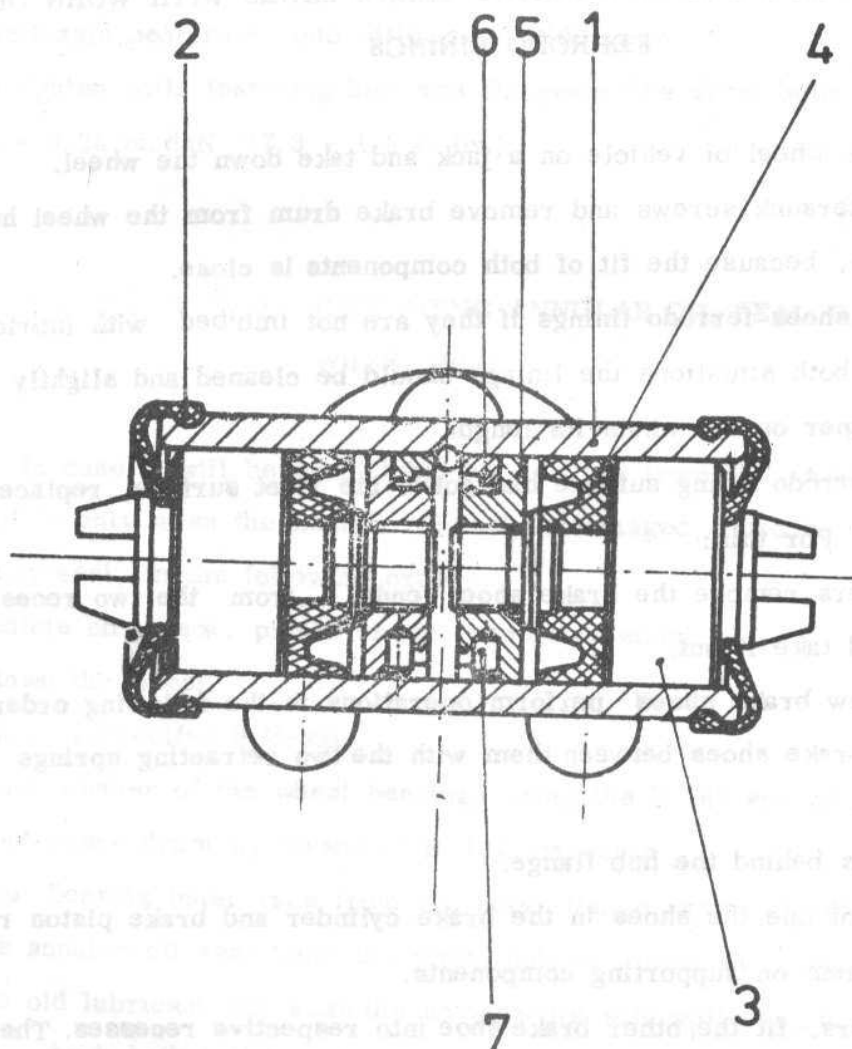

Fig. 4. 137. REAR BRAKE CYLINDER
- Dismantle respective brake cylinder, by removing successively: brake cylinder boot, brake piston, piston cup (4) - (see Fig. 4. 137).